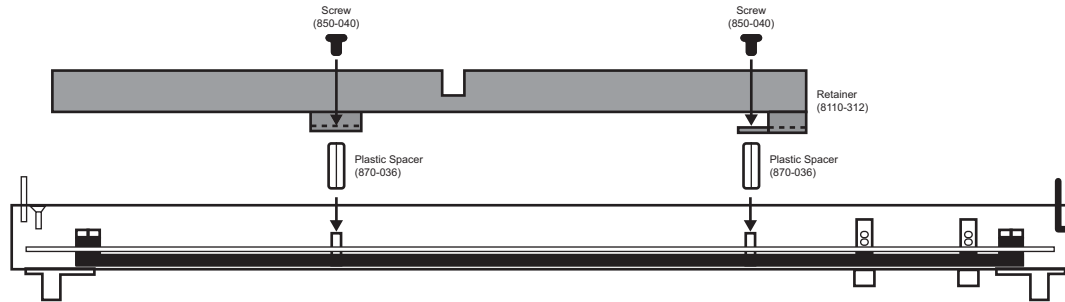

Figure 3.2 CRB-8110A Installation
1. Install two plastic spacers on the threaded studs near bottom of the door. (**Figure 3.2**)
4. Attach the bracket to the plastic spacers with the 850-040 screws. (**Figure 3.2**)